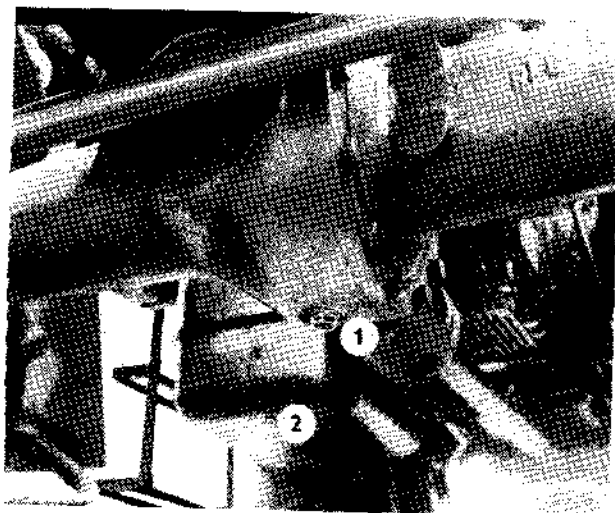

Fig. 15
19. Front drive axle oil drain plug (Fig. 15/1).
24. Fuel tank impurities drain plug (Fig. 15/2).